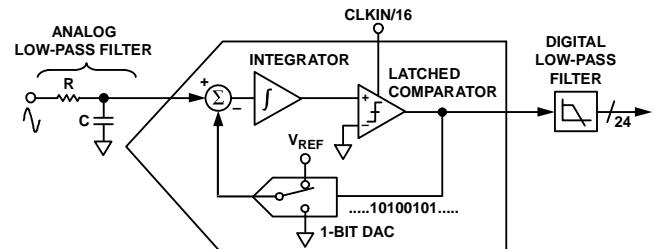
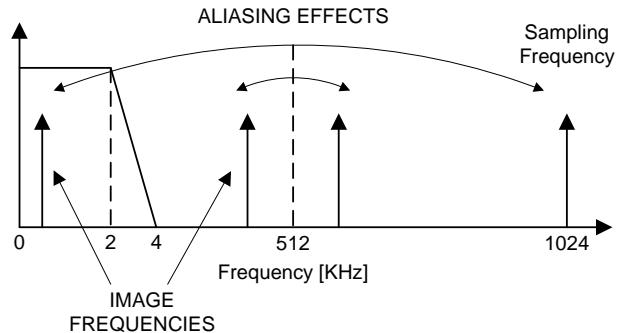

Figure 12. First-Order  $\Sigma$ - $\Delta$  ADC
Figure 14. Aliasing effects at ADE7858
For simplicity, the block diagram in Figure 12 shows a first-order  $\Sigma$ - $\Delta$  ADC. The converter is made up of the  $\Sigma$ - $\Delta$  modulator and the digital low-pass filter.
Figure 12 also shows an analog low-pass filter (RC) on the input to the ADC. This filter is placed outside the ADE7858 and its role is to prevent aliasing. Aliasing is an artifact of all sampled systems and is illustrated in Figure 14. Aliasing means that frequency components in the input signal to the ADC, which are higher than half the sampling rate of the ADC, appear in the sampled signal at a frequency below half the sampling rate. Frequency components (arrows shown in black) above half the sampling frequency (also known as the Nyquist frequency, i.e., 512 kHz) are imaged or folded back down below 512 kHz. This happens with all ADCs regardless of the architecture. In the example shown, only frequencies near the sampling frequency, i.e., 1.024 MHz, move into the band of interest for metering, i.e., 40 Hz to 2 kHz. To attenuate the high frequency (near 1.024 MHz) noise and prevent the distortion of the band of interest, a LPF (low-pass filter) has to be introduced. For conventional current sensors, it is recommended to use one RC filter with a corner frequency of 5 kHz in order for the